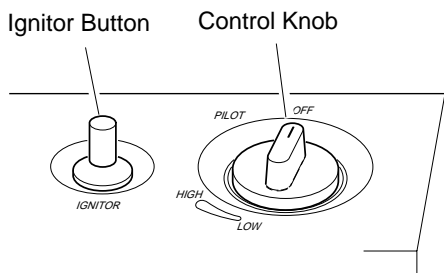

Figure 16 - Control Knob In The OFF Position
4. Wait five (5) minutes to clear out any gas. Then smell for gas, including near the floor. If you smell gas, STOP! Follow "B" in the safety information at the top of page 16. If you don't smell gas, go to the next step.
5. Press in control knob and turn counterclockwise to the PILOT position. Keep control knob pressed in for five (5) seconds (see Figure 16, page 16).